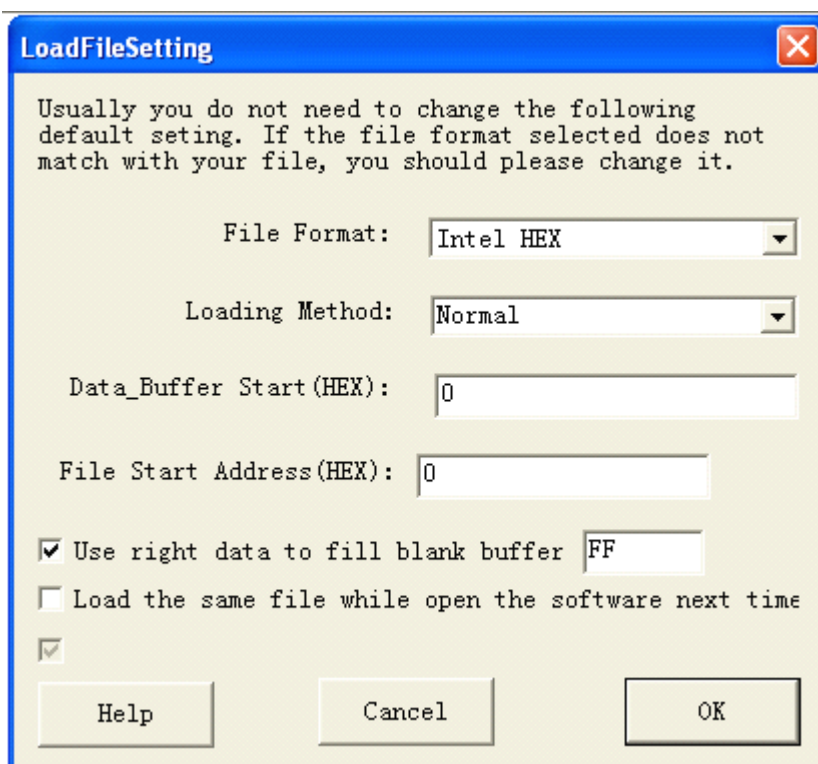

Figure 26: Getting Start Loading file setting
**Step 2:** Load file data2.hex. Refer to Figure 26, change the value of “Data Buffer Start” to the value equal to the location where is you want to link to. **Don't select the check box “Use right data to fill blank buffer”**
**Recommend:** Please select the check box “Load the same file while launch the the software next time” in the “LoadFileSetting” window. See the Figure 26